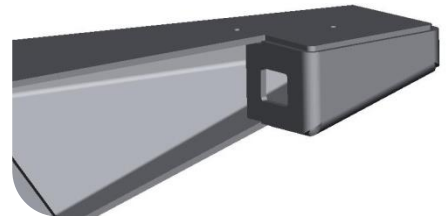

Figure 1
1. Begin by assembling the end caps onto the bumper. Tack weld in place. **(Figure 1)**